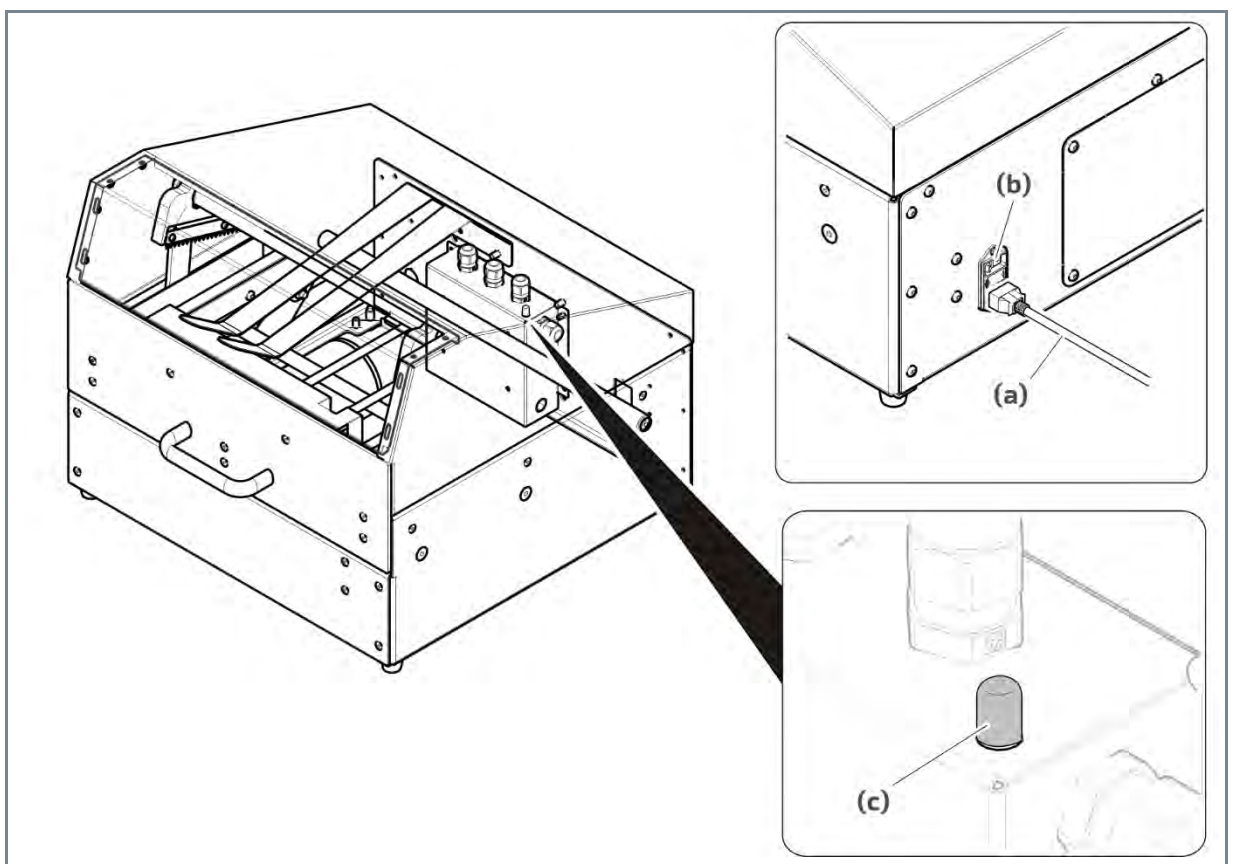

Fig. 4 Switching on the packaging machine
1. Make sure that the power cable **Fig. 4 (a)** is plugged in correctly.
2. Switch the main switch **Fig. 4 (b)** on the back of the machine to "1".
3. Check whether the indicator lamp **Fig. 4 (c)** inside the housing lights up.